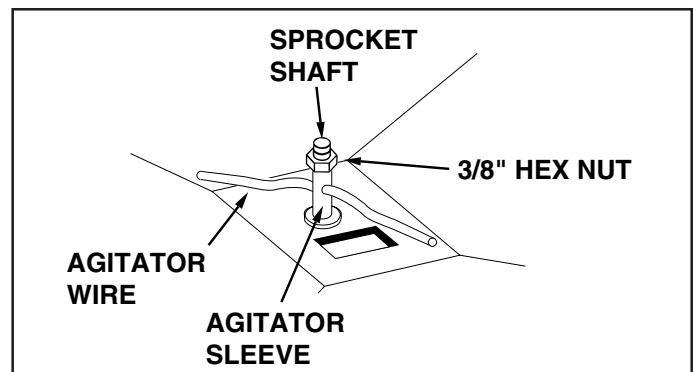

FIGURE 18
4. If agitator wire becomes damaged or worn it can be replaced. Loosen 3/8" hex nut at top end of sprocket shaft until agitator wire is free. Remove old agitator wire from hole in agitator sleeve and replace with new agitator wire. Position agitator wire so that sprocket shaft turns freely and tighten 3/8" hex nut on top of sprocket shaft. See figure 18.